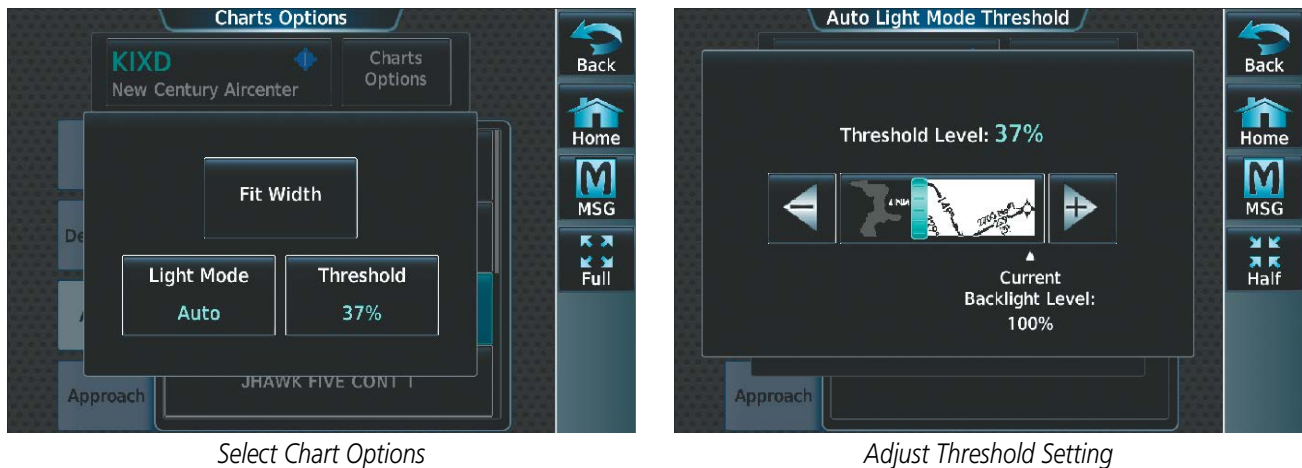

Figure 8-27 Setting Day/Night Switching Threshold
- 2) Touch the **Light Mode** Button (Figure 8-27).
- 4) Touch the **Threshold** button (Figure 8-27). The Auto Light Mode Threshold window is displayed.